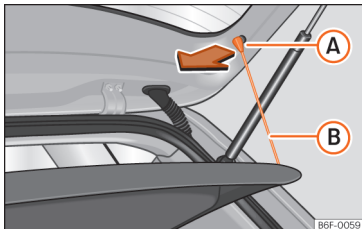

Fig. 142 In the boot: removing and installing the shelf.
- Detach the cord loops >>> Fig. 142 (B) from their hooks (A).
- Attach the securing straps >>> Fig. 142 (B) onto the rear lid.